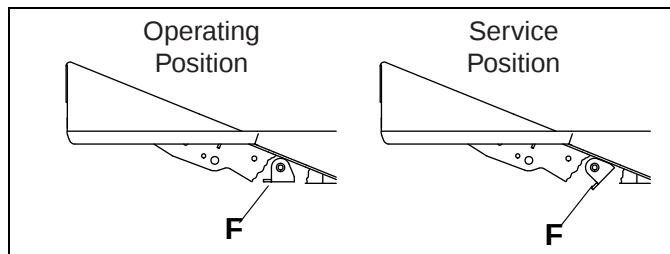

Figure 3C
1. Rotate anti-sway mechanism **(F)**, located under left side floor panel, to Service position. **Figure 3C**
4. Rotate anti-sway mechanism **(F)** to it's operating position. **Figure 3C**